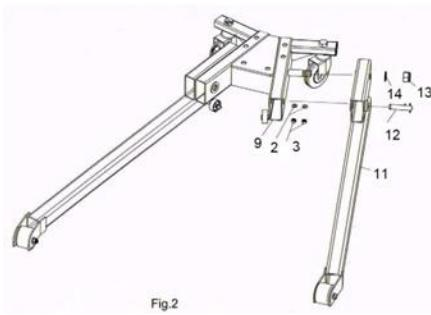

Fig. 2
Secure the 2 parts of the frame 11) to the base (9) using the pins (12), flat washers (2) and lock nuts (3), and screw them into the base with lock nuts (13) and washers (14) as shown in figure 2.